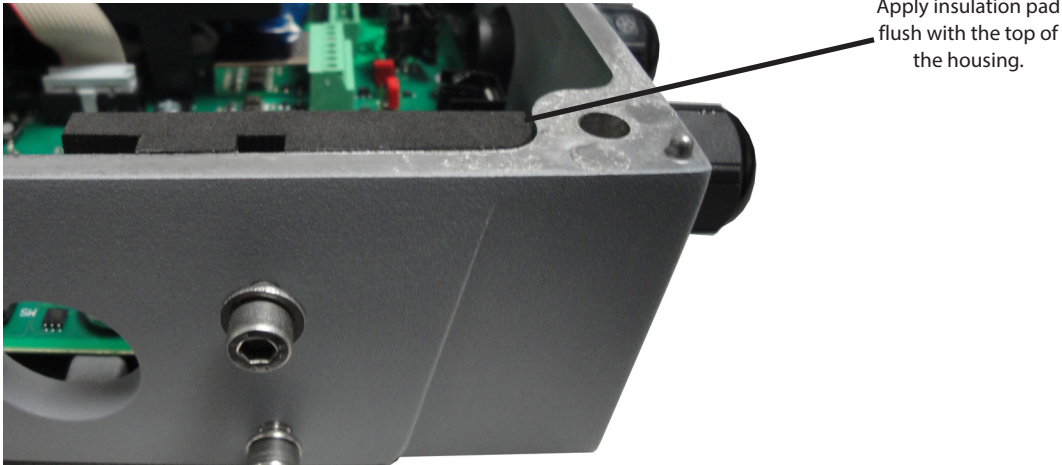

Figure 3: Installing Foam Insulation Pad
3. Prior to inserting the daughterboard, install the foam insulation pad as shown Figure 3. Be sure to align the groove with the two screws attaching the detector or wall mount bracket to the enclosure. The primary purpose of this pad is to ensure the daughterboard is insulated from the enclosure wall. It is important to install this pad flush with the top of the enclosure wall.